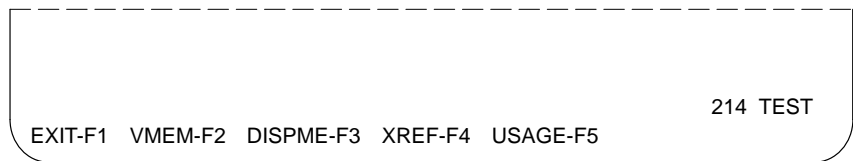

Figure 4-21 Memory Function Keys
1. Press the SPACEBAR, then **MEMORY-F2** from the ladder display (online or offline). You get a second function key menu, shown in Figure 4-21.